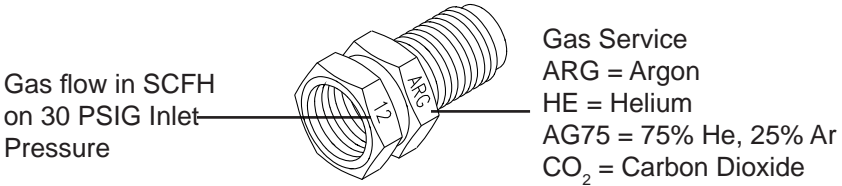

Figure 1. Flow Adapter Markings
- h. A flow adapter on fixed pressure regulator (See Table and Figure 1).